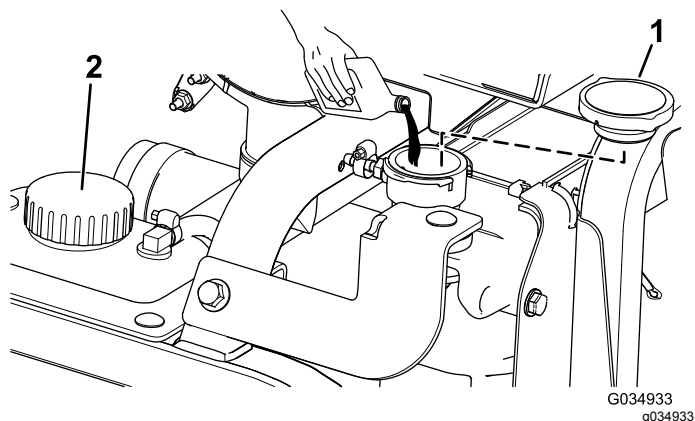

Figure 122
- Fill the radiator with coolant until the coolant level even with the lip of the filler port (Figure 122).